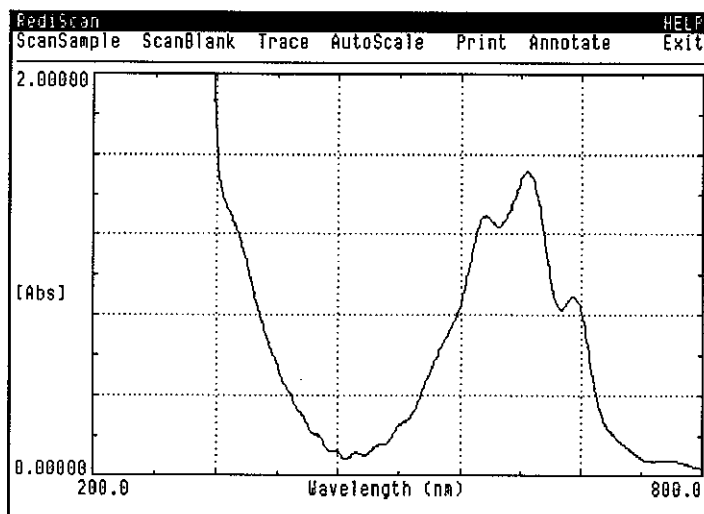

Figure 4-4. RediScan Window
1. Click on <<RediScan>>, located in the permanent menu bar at the bottom of the display, to display the RediScan window, Figure 4-4.